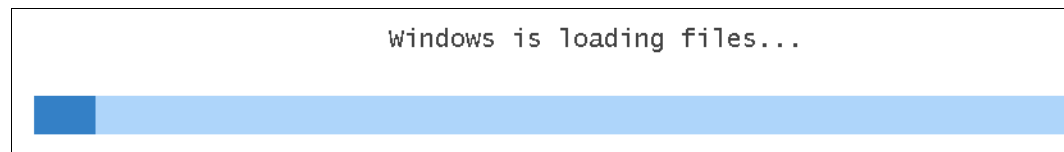

Figure 9-48 ServerGuide progress bar
4. The progress bar appears, as shown in Figure 9-48.